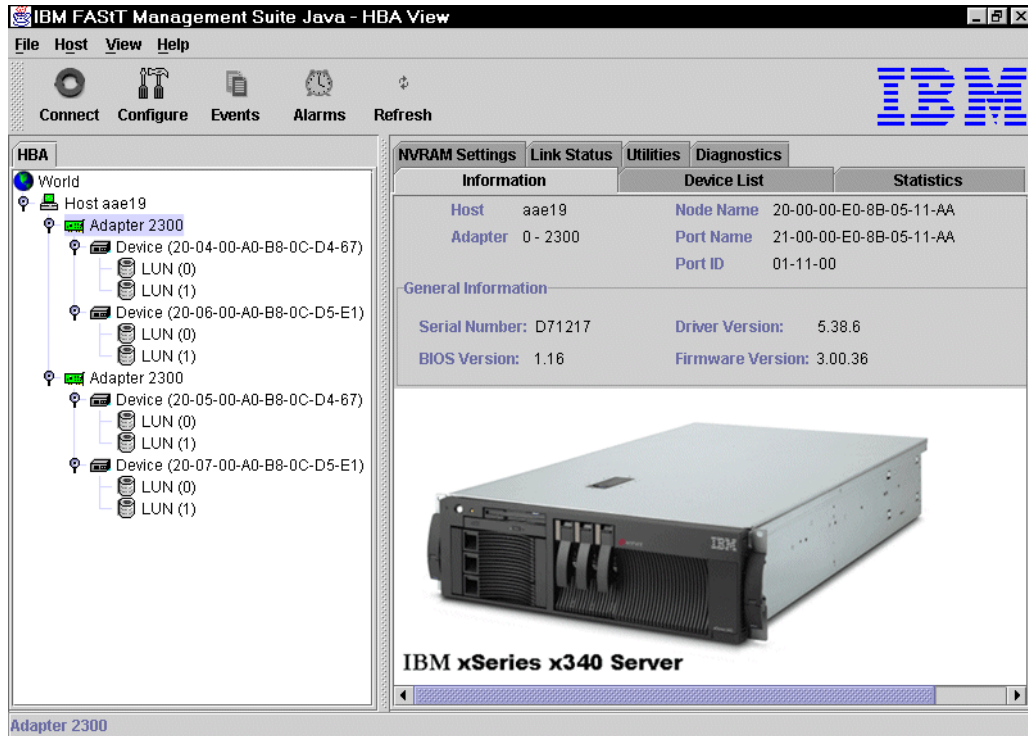

Figure 4-66 FASTT MSJ HBA view
6. Click one of the host bus adapters in the left-hand pane and the right-hand pane changes. There are now seven tabs as shown in Figure 4-66.